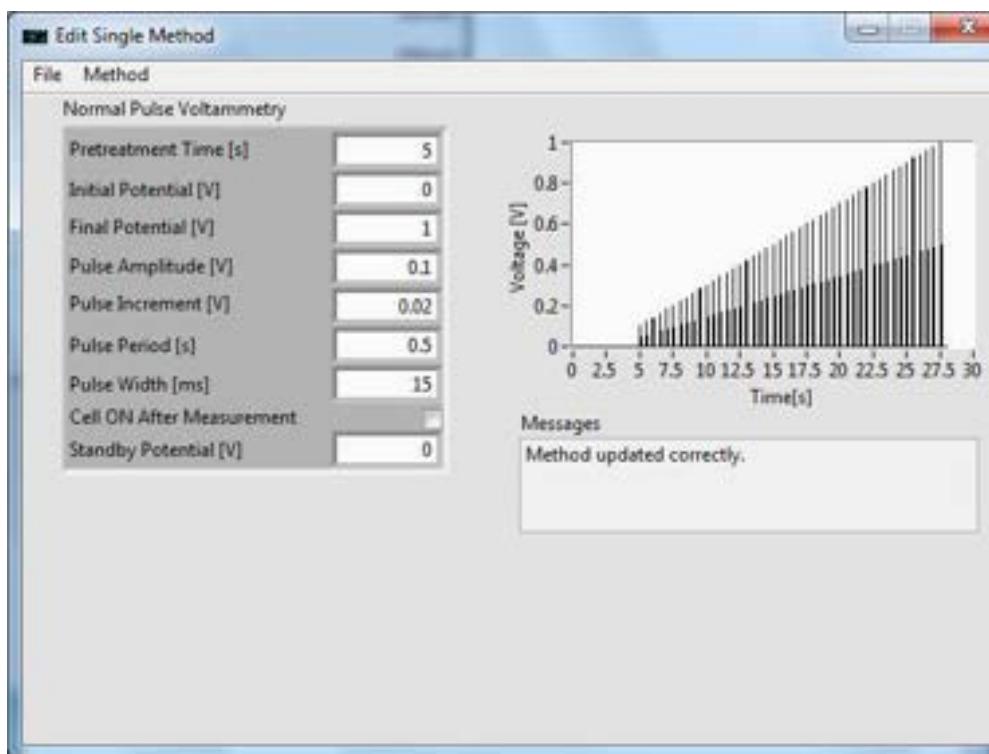

**Figure 20. Differential Pulse Voltammetry recipe editor**
1. For differential pulse voltammetry, go to [NuVant EZware] **Technique**→*Pulse Techniques*→Differential Pulse Voltammetry. [Edit Single Method] shows the input boxes for **Differential Pulse Voltammetry** (Fig. 20).